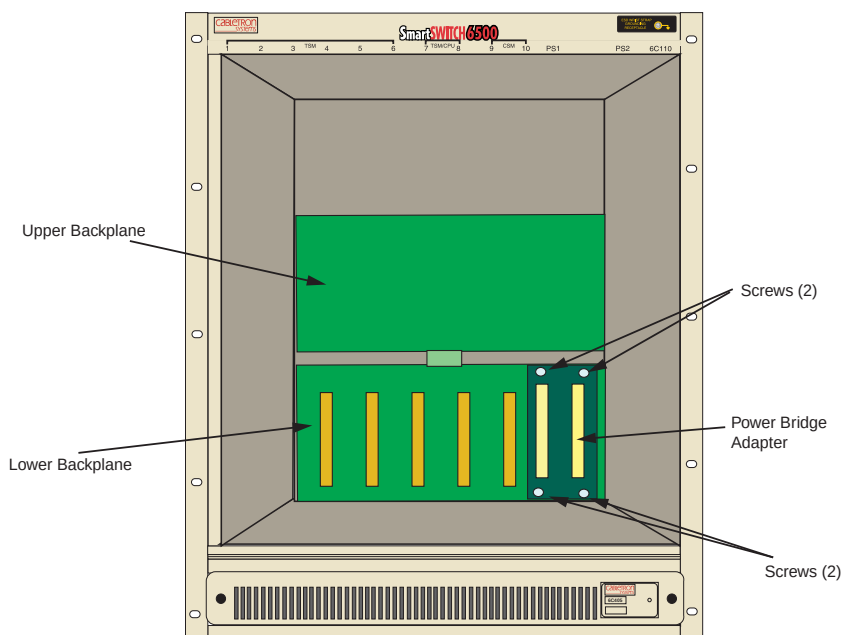

Figure 3-4 Removing the Power Bridge Adapter
To remove the power bridge adapter, refer to Figure 3-4 and proceed as follows:
2. Locate the power bridge adapter that is attached to the right hand side of the lower backplane as shown in Figure 3-4.